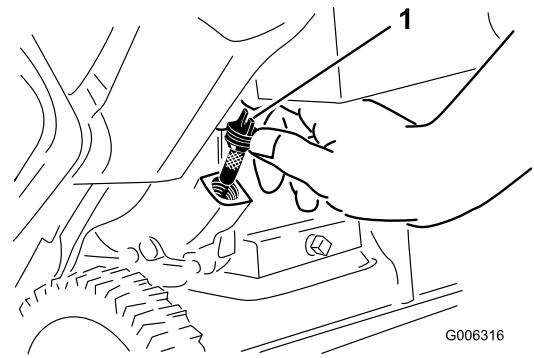

Figure 8
2. Clean around the oil fill cap (Figure 8).